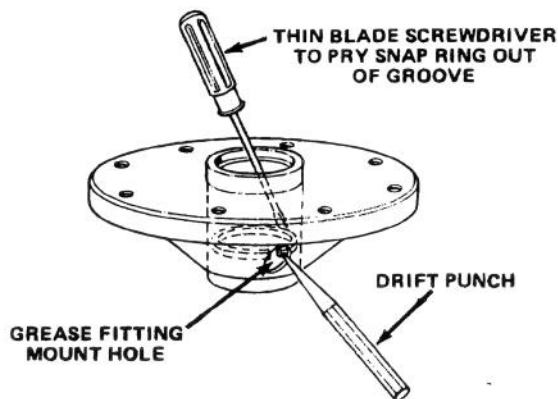

Figure 36
12. A large snap ring is still inside the spindle housing. Remove the grease fitting from housing, rotate ring inside housing until split end of ring lines up with fitting hole and remove ring with drift punch and screw driver (Fig. 36).